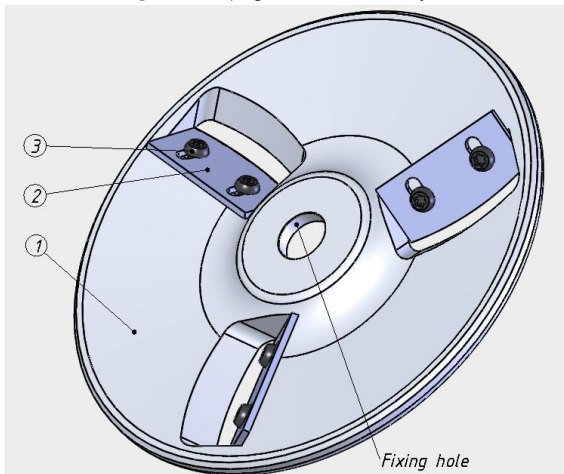
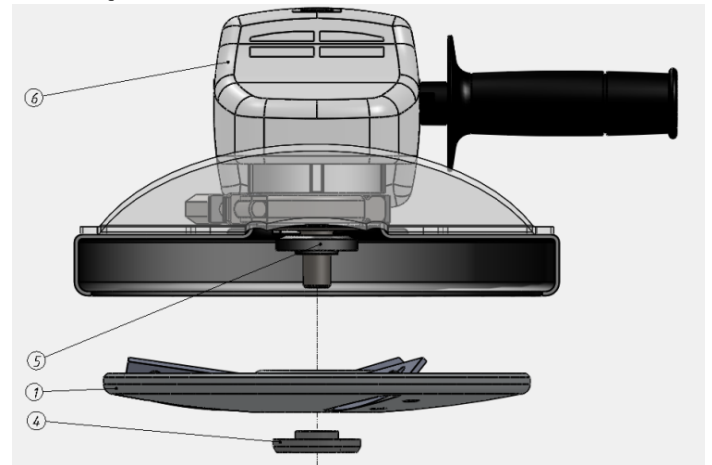

Fig. 1 Complete log peeler tool
Fig. 2 Mounting scheme of log peeler tool D220 SPH / PLR to the 9'' (230 mm) angle grinder
2. The **log peeler disc** (figure 1, pos. 1) must be fixed to the angle grinder with standard (22.23 mm, 7/8'') disc flange (figure 2, pos. 5) and clamp nut M14 (figure 2, pos. 4). Ensure that the clamp nut's **step edge** is directed towards the tool's fixing hole. Clamp nut must be tightened with a special angle grinder's wrench, but it is important to use gloves, because there is a risk to injure operator's hand against the cutting blades, when the wrench should be accidentally slipping away. Please be very careful!
3. Always disconnect the tool from the power source when changing **cutting blades** (figure 1, pos. 2) or when performing any general maintenance activities (such as adjusting or cleaning).
6. Ensure that cutting depth and **screws M6x12 ISO7380** (figure 1, pos. 3) are tightened. Screws must be tightened up to the torque **9.0 Nm (79.7 In. Lb. or 6.64 Ft. Lb.)**. Please use ¼'' Torx T30 screwdriver bit, which included to the set of log peeler tool.